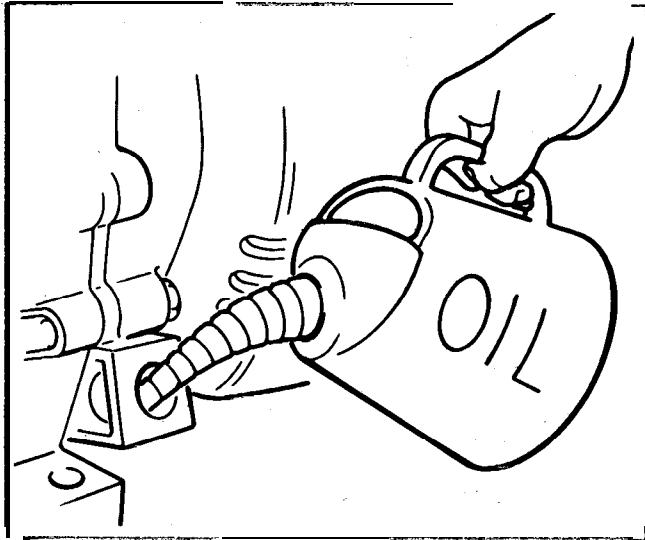

Figure 3
5. Fill the crankcase with oil. See the Specification Section on page 3 for the proper quantity. When replacing the oil it will be helpful to tilt the generator back about 10°-15°, this will allow the oil to enter the filler neck without spilling. See Figure 3.